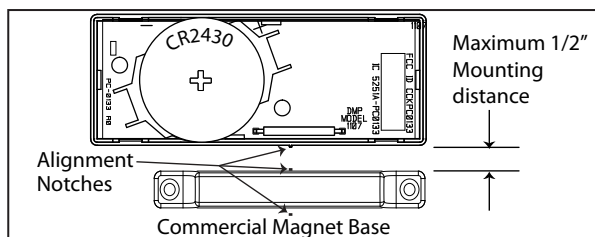

Figure 6: Optional Commercial Magnet
2. When using the commercial magnet, snap the magnet into the commercial housing, then using the supplied #4 flat head screws, mount the magnet using the alignment notches as a guide. (Figure 6).